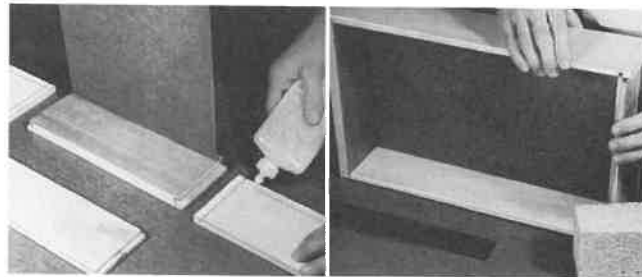

Fig. 22-8. Gluing drawer. Left. Bottom in place and glue being applied to a front corner. Right. Placing the second side in position—final operation.
11. Make the final assembly using one of several procedures. One method is to first glue the bottom into the front and then glue one of the front corners. This is shown in Fig. 22-8. Be sure the bottom is centered. The side grooves are usually not glued. Turn the drawer on its side and glue the back into the assembled side. Finally, glue on the remaining side as shown. Clamps or a few nails can be used to hold the joints together until the glue hardens.